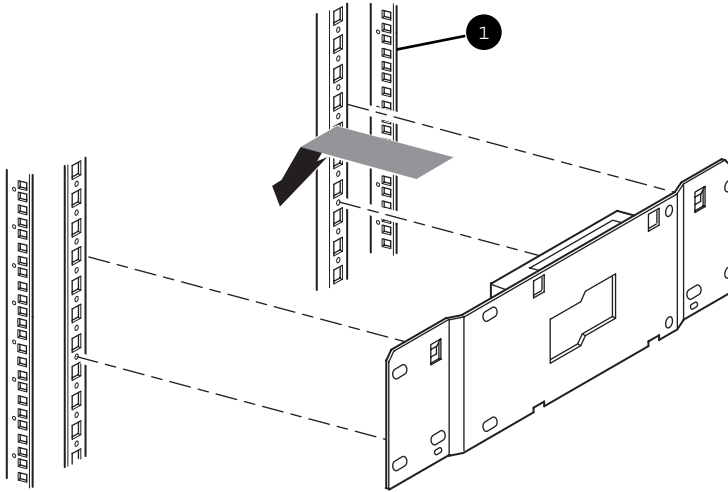

Figure 1 Installing the LAN hub into a standard 7000/9000/10000 rack enclosure
1. Install cage nuts/clip nuts as indicated in Figure 1 through Figure 4.